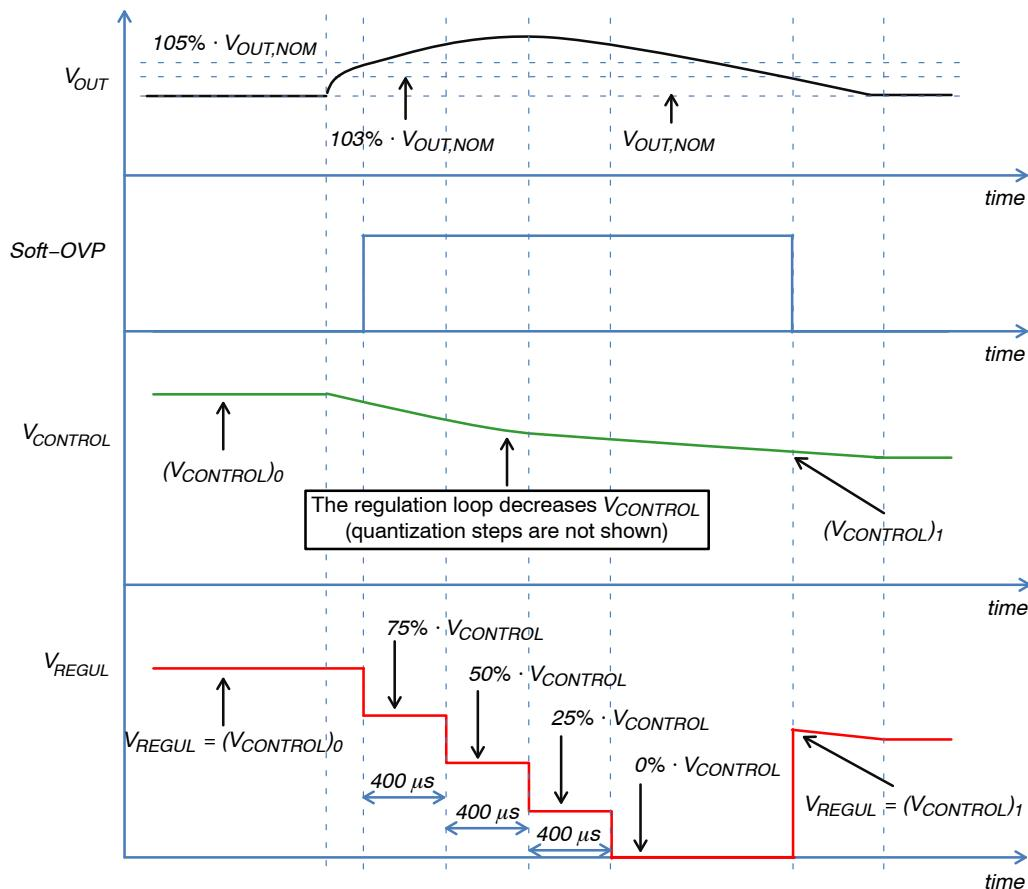

Figure 14. Soft-OVP
- Then, enters a soft-stop sequence to gradually reduce the line current and thus minimize the risk of audible noise. If the output voltage reaches the soft-OVP level (105% *Vout,nom*), the protection trips and the 4-step stop illustrated by Figure 14 takes place.